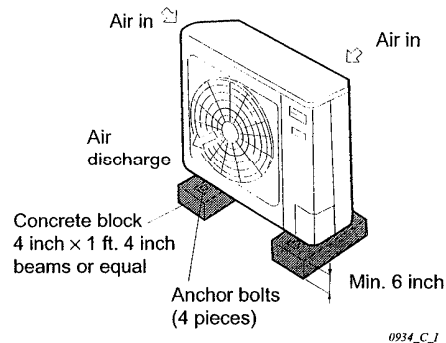

Fig. 6
- provide a solid base; about 6 inch above ground level to reduce humidity and possible water damage in the unit and decrease service life. Fig. 6
Refer to Fig. 6 and Fig. 7.